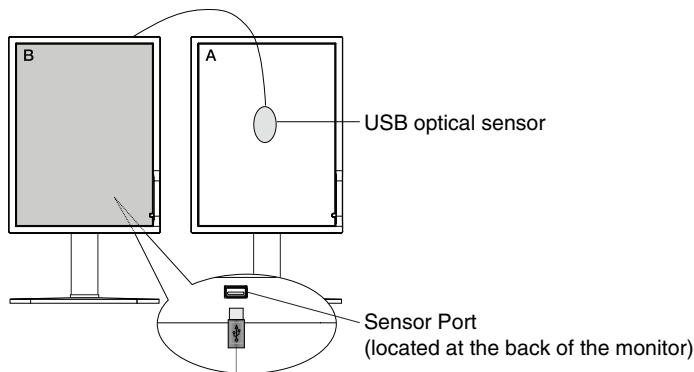

Figure C.1
1. To show the CALIBRATION menu, plug-in the USB optical sensor to the sensor port (**Figure C.1**) or select the STAND ALONE CALIBRATION in the advanced menu (page 20).
5. The procedure will ask for the USB optical sensor to be placed on the center of the display panel (**Figure C.4**). Tilt the display panel approximately 5° backward and place the USB optical sensor in the center of the display panel (**Figure C.1**).